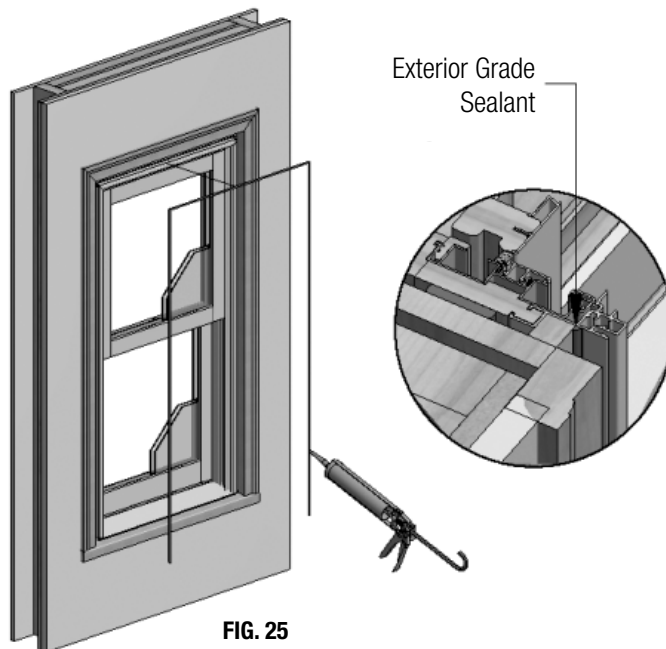

FIG. 25
- G) Apply exterior grade sealant along the head and sides of the replacement window; sealing the gap between the existing exterior stop and replacement frame. (Fig. 25)